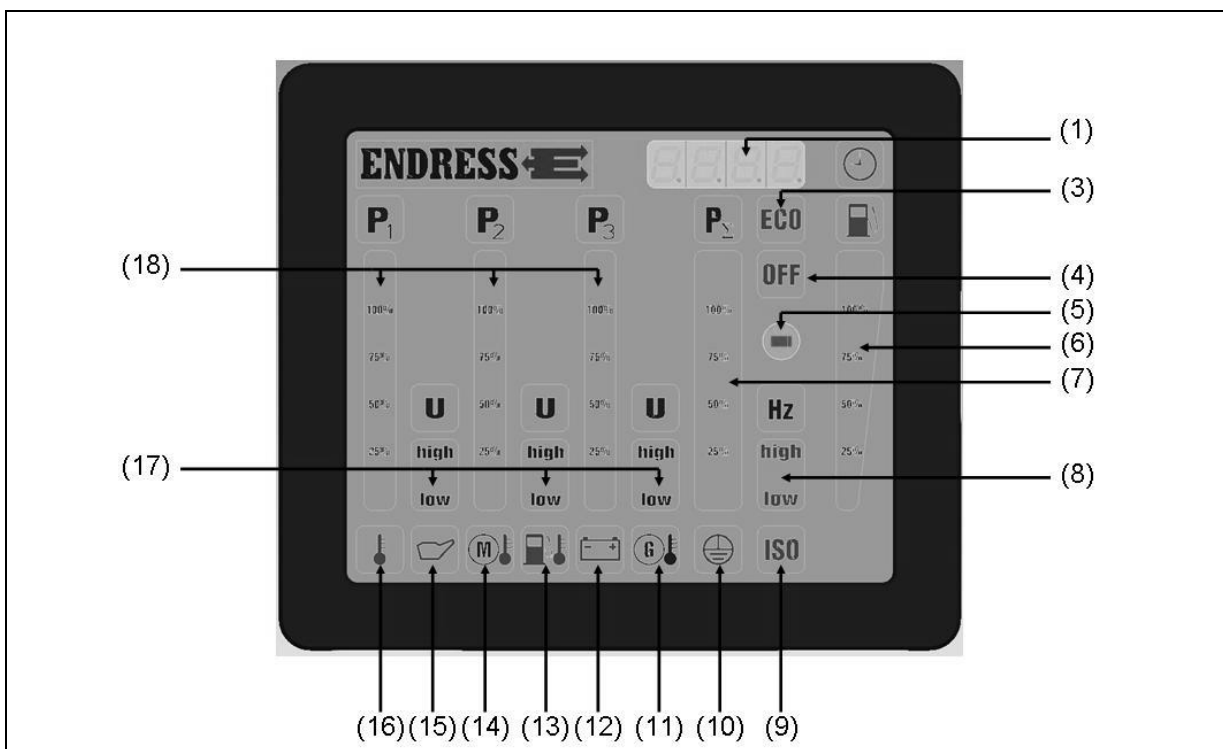

Fig. 4-5: Multi-functional display
All LEDs light up for about 2 seconds to allow checking as soon as the START-STOP switch is set to the position "Operate". The normal operational lighting is then shown afterwards for about 30 seconds. If the engine is not started within this period, the E-MCS 4.0 goes into energy saving mode and the indicator goes dark. To bring the E-MCS 4.0 back into a ready-to-operate condition again, the START-STOP switch must first be turned into the position "STOP". The display intensity is dependent on the ambient brightness (sensor see Figure 4-5-(5)).
- Relative load indicator:** Load (P_{Σ}) (see Figure 4-5-(7))
- ✓ The displayed symbol (see Fig. 4-5-(8)) indicates the result: